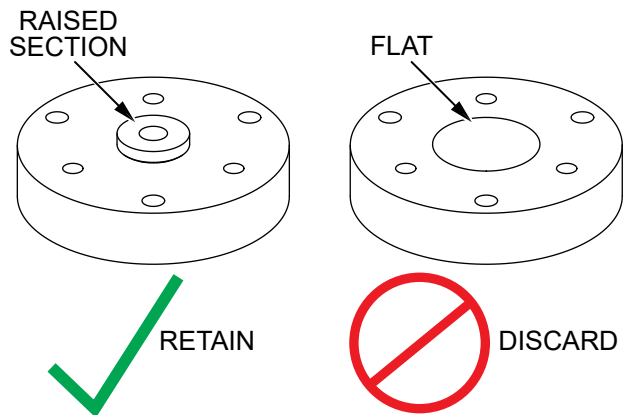

Figure 13. Existing Coupler Inspection
- Inspect the existing coupler. If it has a raised area as shown in Figure 13, retain the coupler and continue to the next step. If it does not have a raised area as shown, discard the coupler and use the new, improved coupler (P/N 23433) for the next step.